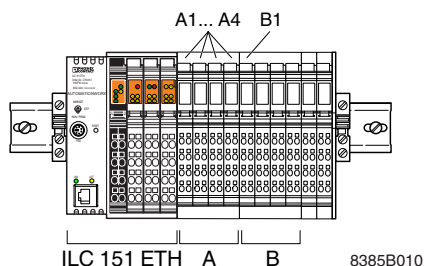

Figure 2-14 Connectors to be removed if terminals are installed next to the Inline controller
- If Inline terminals are installed next to the Inline controller (see Figure 2-14):
- Remove the directly adjacent Inline terminal (A).